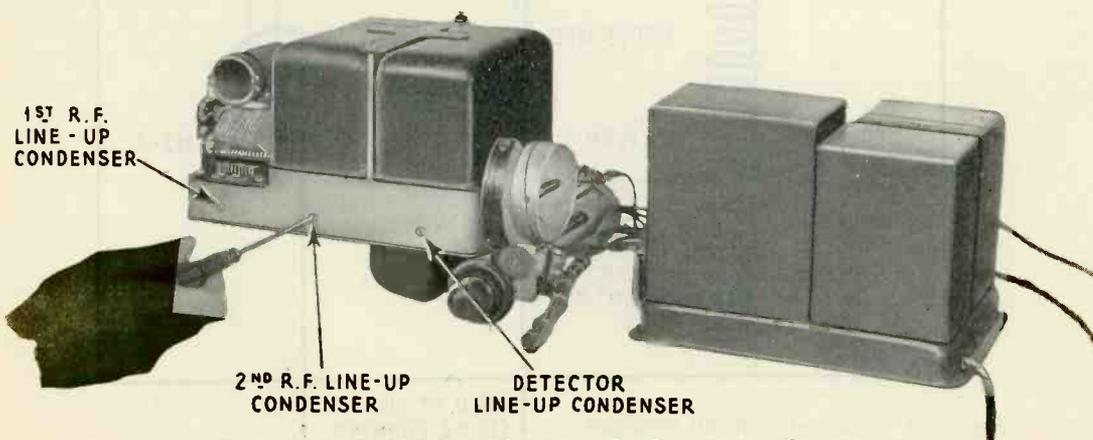

Figure 10—Method of adjusting the line-up condensers
- (d) Place Local-Distant Switch at "local" position and adjust the three condensers successively from the detector stage to the antenna stage (See Figure 10), for the position of the loudest signal. This may be done with any type of screwdriver, as the adjusting screws are at ground potential.